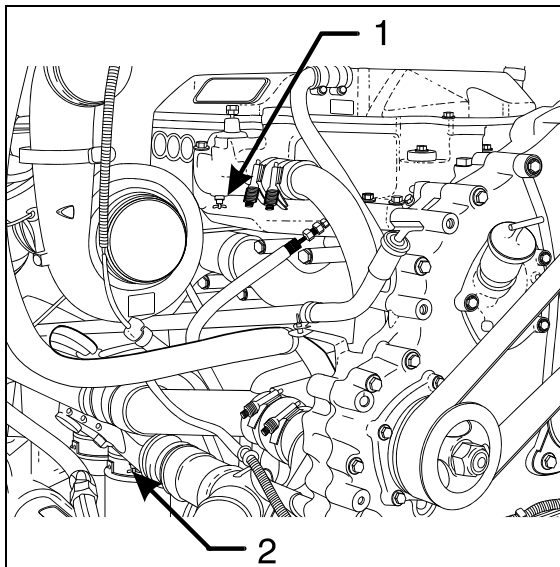

FIGURE 7: ENGINE COOLANT DRAIN COCKS 05059
3. Open drain cock at bottom of thermostat housing to drain the coolant trapped above the thermostats (1, Fig. 7).
5. Open engine drain cock (2, Fig. 7).